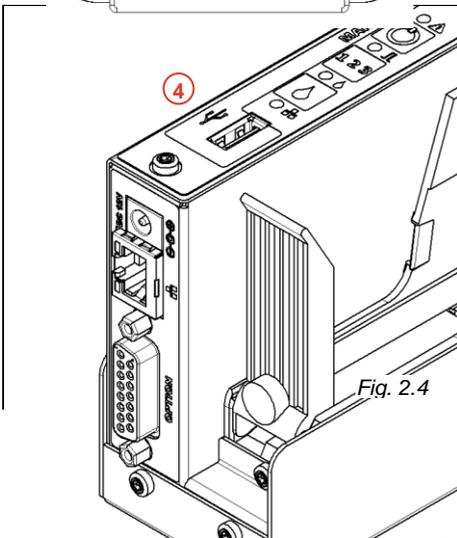

Fig. 2.4
- Connect the power supply to the socket ① and the power plug to the power socket
- If required establish a network connection via the socket ②.
- You have the choice to connect some optional extras, i.e. shaft encoder, to the socket ③.
- Point ④ in Fig. 2.4 shows the possibility to connect a USB-stick (USB 2.0).